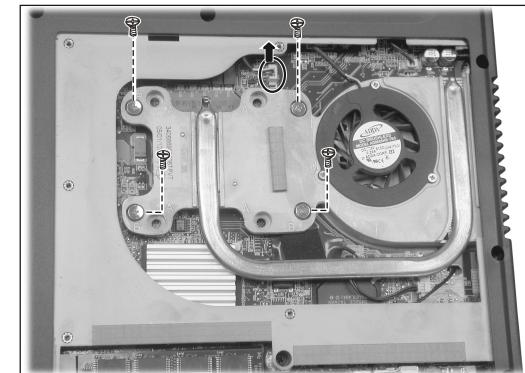

Figure 2-7 Free the heatsink
3. Remove the four spring screws that secure the heatsink upon the CPU and disconnect the fan's power cord from system board. (Figure 2-7)